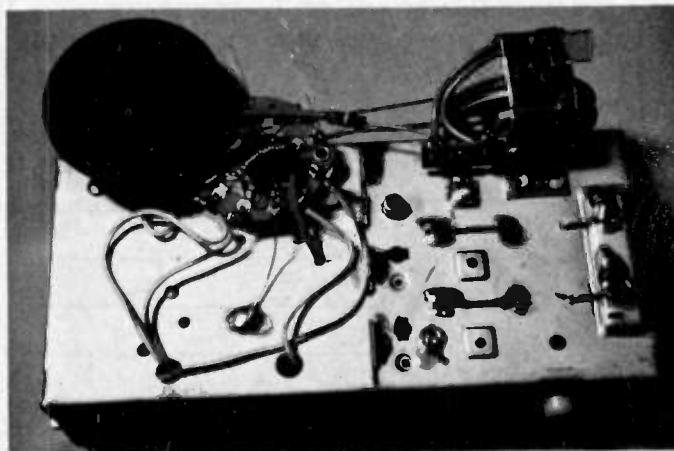

Fig. 3.
3. Locate C1 on top of chassis (see Fig. 3). Gently turn clockwise as far as it will go. You have now changed the tunable frequency of the unit down into the amateur band.